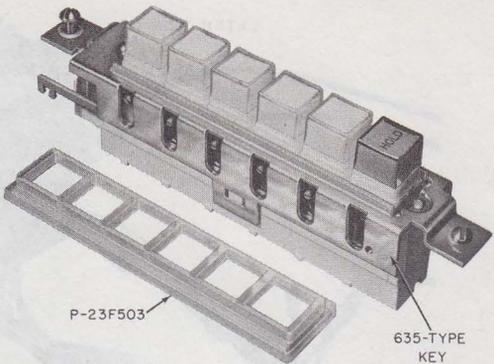

Fig. 9—Current Production 635-Type Key and Collar
(8) Install proper collar furnished with 635-type keys. Early production keys have rectangular buttons, and current production keys have square buttons (Fig. 9) making the collars incompatible.